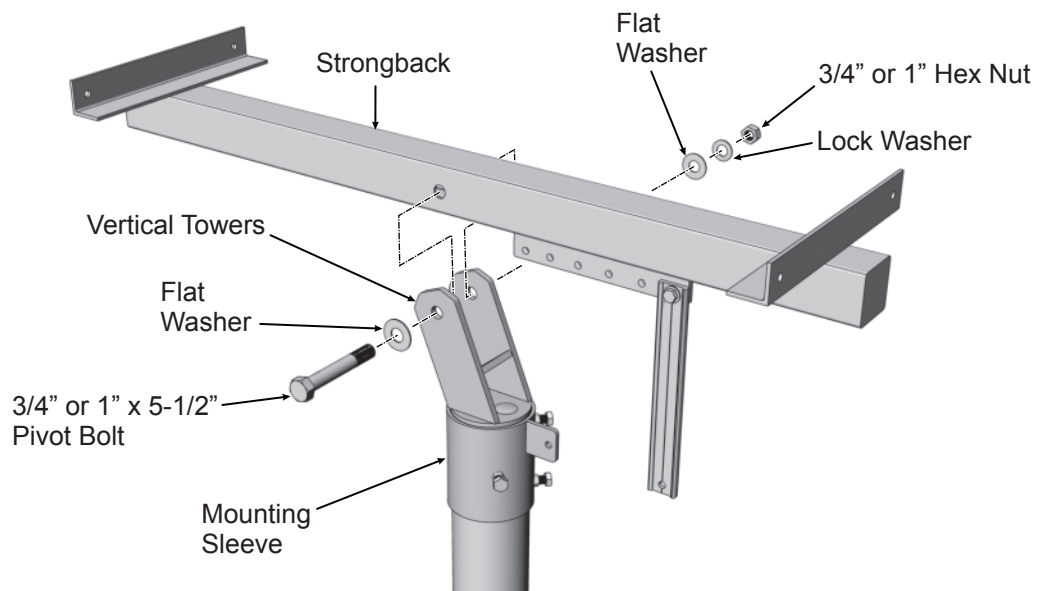

Figure 4-2: Installing the Strongback
- B. Remove the Pivot Bolt from the Mounting Sleeve and also collect the 3/8" x 1-3/4" bolt, flat washers and lock washers and lock washer needed to secure the Support Bar to its Pivot Tab on the Mounting Sleeve. (See Figure 4-2)